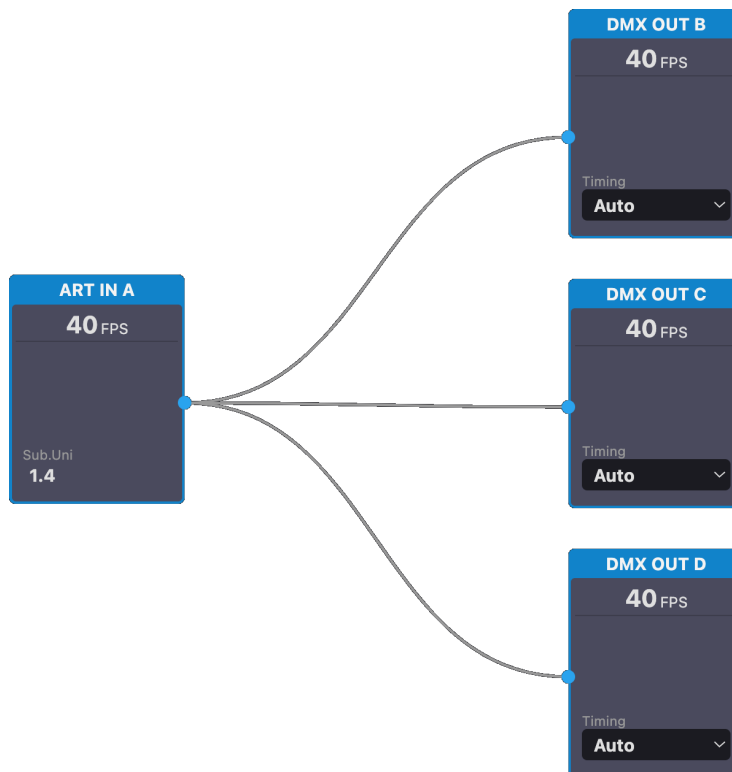

Figure 3.5: Output connected to multiple input
- An output dot can be connected to multiple input dots. See figure: 3.5.